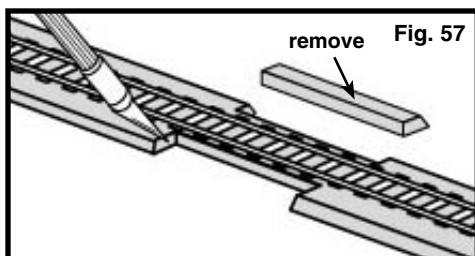

Fig. 57
- A. Make sure surface is clean and dry. Remove Track-Bed, from both sides of the track, the width of the Hydrocal Incline where the road crosses the track (Fig. 57). Use a hobby knife to cut and remove this material.